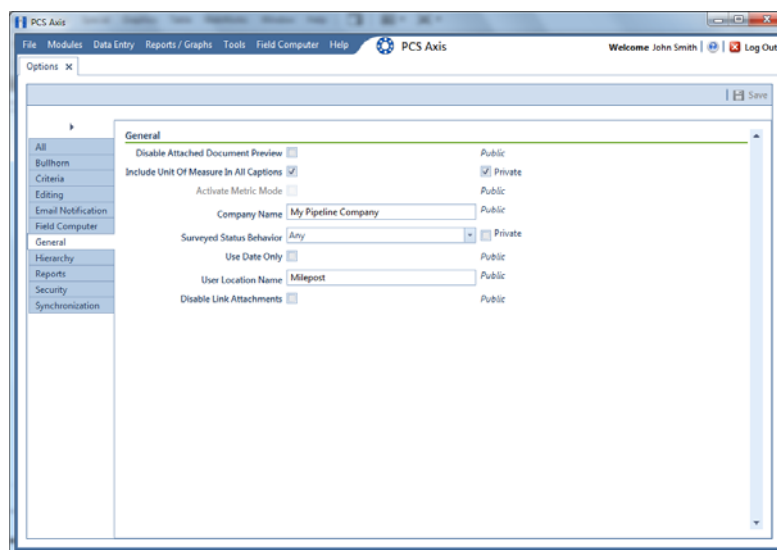

Figure 3-3. Company Name and User Location Name
- 1 Click **Tools > Options > General** to open the *General* options page (Figure 3-3).